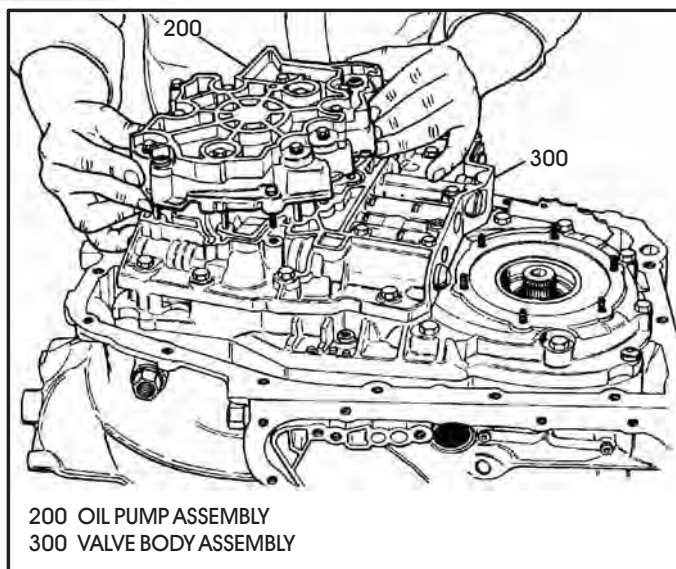

Figure 207
84. Install the preassembled oil pump assembly on valve body, as shown in Figure 207, and rotate pump drive shaft to fully seat the oil pump.